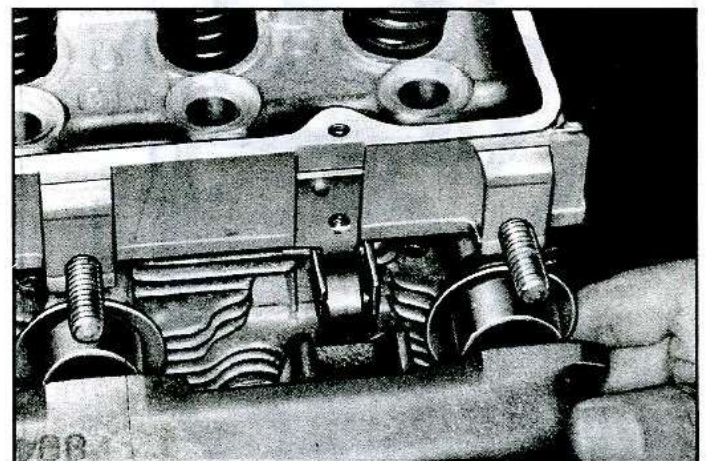

Fig. 2—Choke Coil Mounting
5. Remove choke coil and control rod assembly from cylinder head (fig. 2).